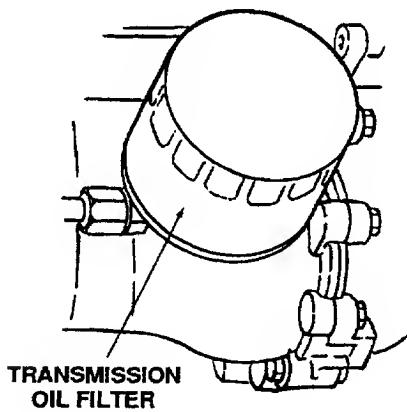

Figure 23
- Clean around the base of the transmission oil filter and remove filter by turning it counterclockwise. (Refer to Figure 23.)